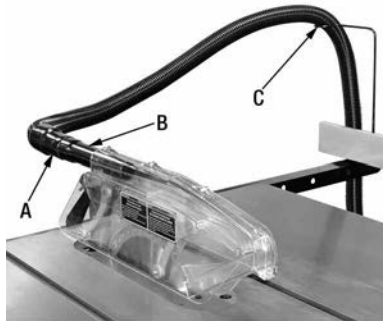

FIGURE 2
Slide one end of the vacuum hose (A) Fig.2 over the blade guard adapter (B). Position the hose between the hook of the hose hanger (C).